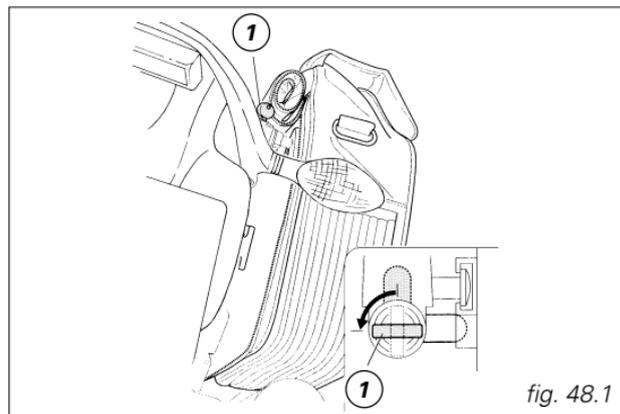

fig. 48.1
**Removing the bags** (fig. 48.1)